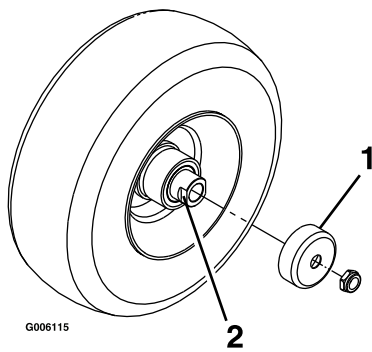

Figure 34
4. Remove the seal guards from the wheel hub (Figure 34).